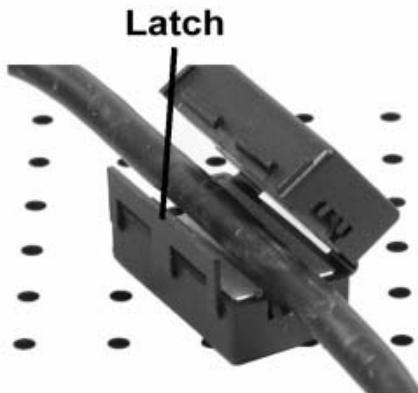

Figure 2-6: Removing the LVDS Cable from the Toroid
10. Remove the LVDS cable and toroid from the clips on the RF shield. Remove the toroid from the LVDS cable by releasing the latch as shown in Figure 2-6.